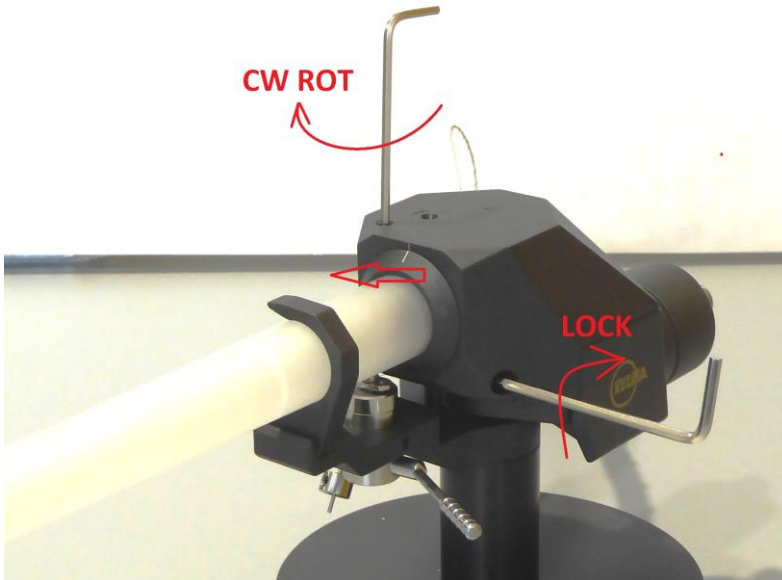

Fig. 14. Azimuth adjustment-unlocking
To make azimuth adjustments, release the screw locking the mechanism on the side of the tube assembly with Allen key 2,5 mm. Insert the Allen key 2 mm into the screw (it may feel loose), rotate it slightly and it will alter the azimuth. ( Fig. 14.)